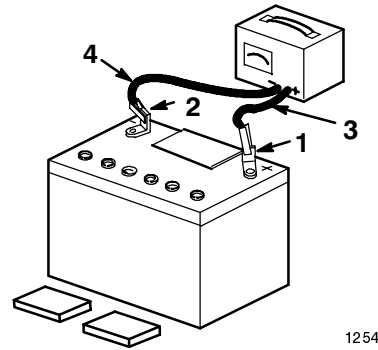

Figure 5
3. Leave the filler caps off and connect a 3-4 amp battery charger to the battery posts (Fig. 5). Charge the battery at a rate of 4 amperes or less for 4 hours (12 volts).
4. When the battery is fully charged, unplug the charger from electrical outlet, then disconnect the charger leads from the battery posts (Fig. 5).